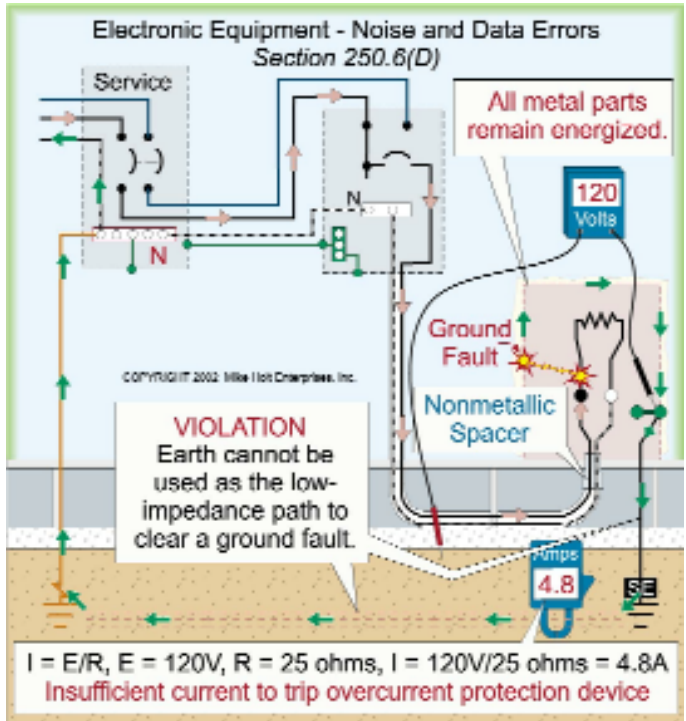

Figure 250-46
pendent grounding system. This practice is very dangerous and violates the *NEC* because the earth will not provide the low-impedance path necessary to clear a ground fault [250.4(A)(5)]. See 250.54 for the proper application of a supplementary electrode and 250.96(D) and 250.146(D) for the requirements of isolated equipment grounding (bonding) conductors for sensitive electronic equipment. Figure 250-46